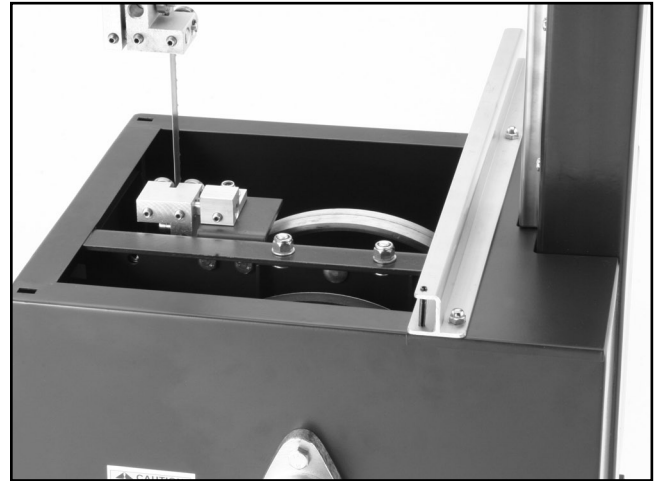

Figure 12. Rear rail attached to saw body.
3. Secure the rear rail and cover plate to the saw body with two carriage bolts and acorn nuts. Note—*The acorn nuts are meant to be mounted outside of the saw body, as shown in **Figure 12**.*